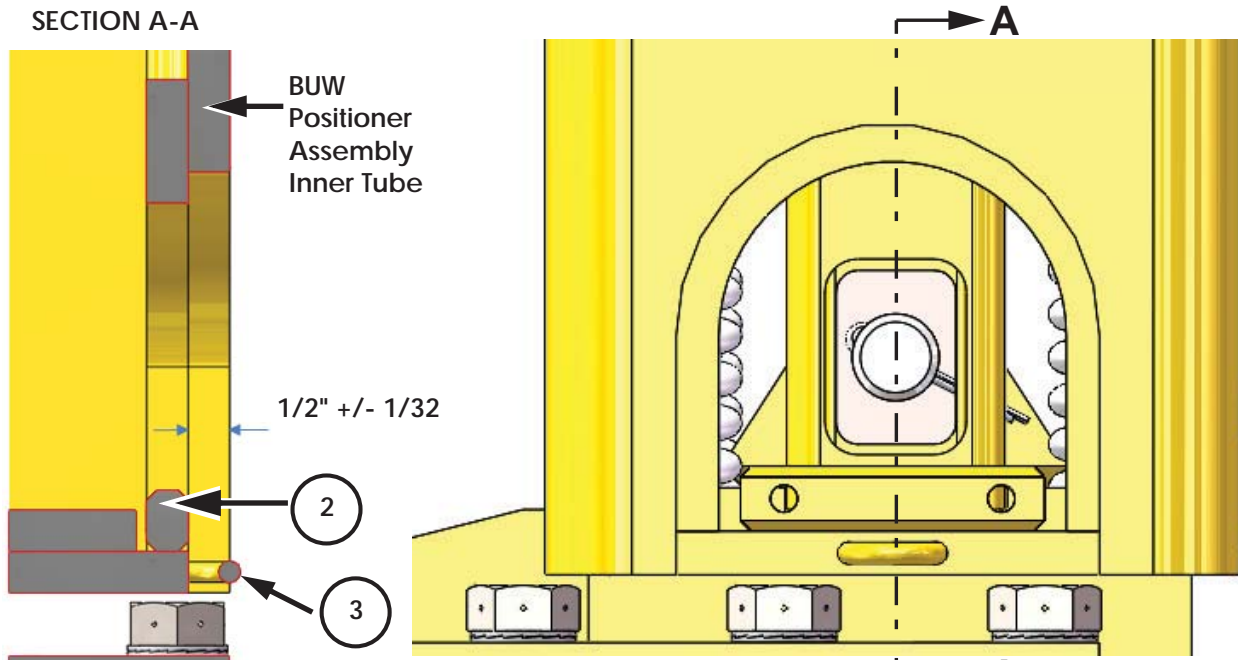
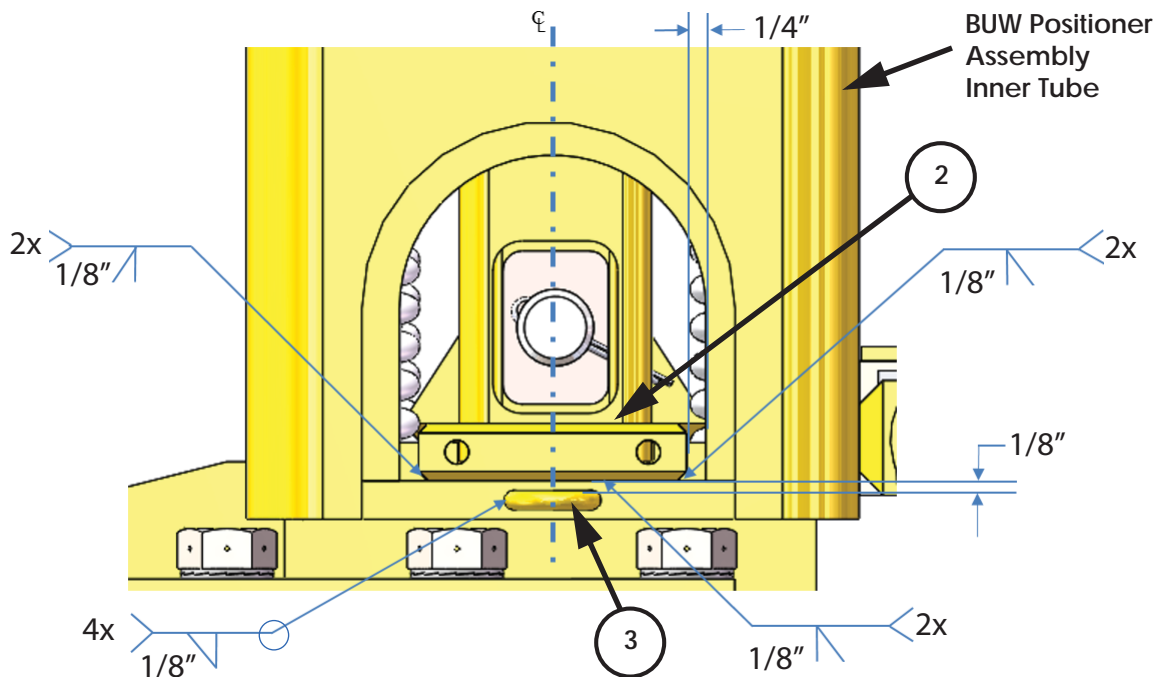

Figure 2: BUW Positioner Assembly - Section View A-A
Figure 3: Welding Specifications
3. Weld Tap Pad (item 2) and Chain Link (item 3) to the BUW Positioner Assembly Inner Tube at the locations indicated in Figure 2 on page 4 according to welds shown on Figure 3 on page 4. **Note: Tap Pad (item 2) MUST be positioned as indicated in Figure 2 to ensure clearance for fasteners!**